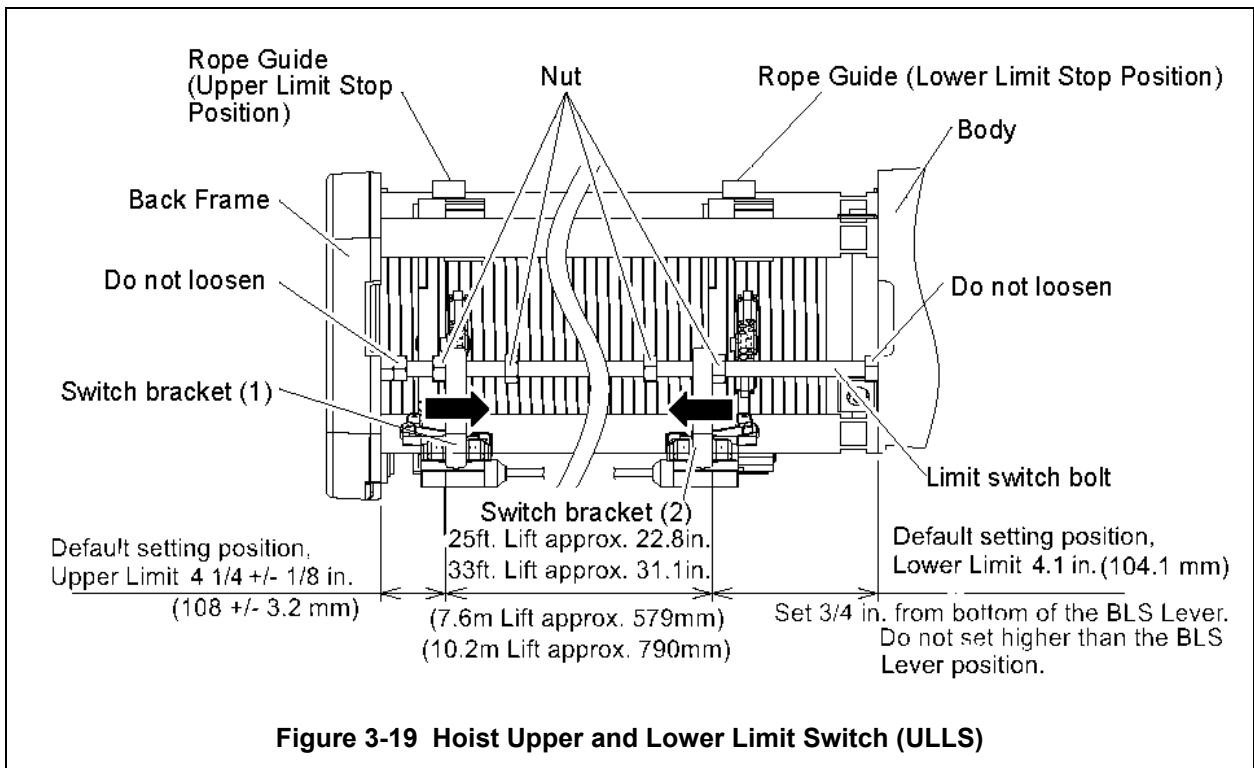

Figure 3-19 Hoist Upper and Lower Limit Switch (ULLS)
- 1) Referring to **Figure 3-19**, loosen the nut attached to the limit switch bolt, and adjust the position of the switch mounting brackets. * Moving the switch brackets by 0.4 inches (10.3 mm) (1 pitch of the Rope Drum) moves the Upper Limit Stop Position (or Lower Limit Stop Position) by 4-15/16 inch (125 mm) (1 rotation of the Rope Drum).
- 3) Upper side: Attach the bracket so that the distance from the end surface of the Back Frame and the left end surface of the switch bracket (1) can be not less than 4.1 inches(105 mm).
- 4) Lower side: Attach the bracket so that the distance from the end surface of the body and the right end surface of the switch bracket (2) can be not less than 4 inches (103 mm).
- 5) After moving the switch brackets (1) and (2), fasten the switch brackets securely with nuts (tightening torque: 23.6 lbf-ft / 32 N*m).